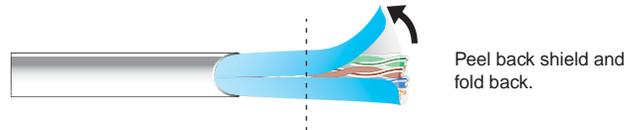

Figure 8. Peeling Back the Cable Shielding
1. Peel back the cable shielding (see figure 8) from the end of the cable the length of the RJ-45 connector body (approximately 7/8 inch [2.2 cm]) and fold it back.